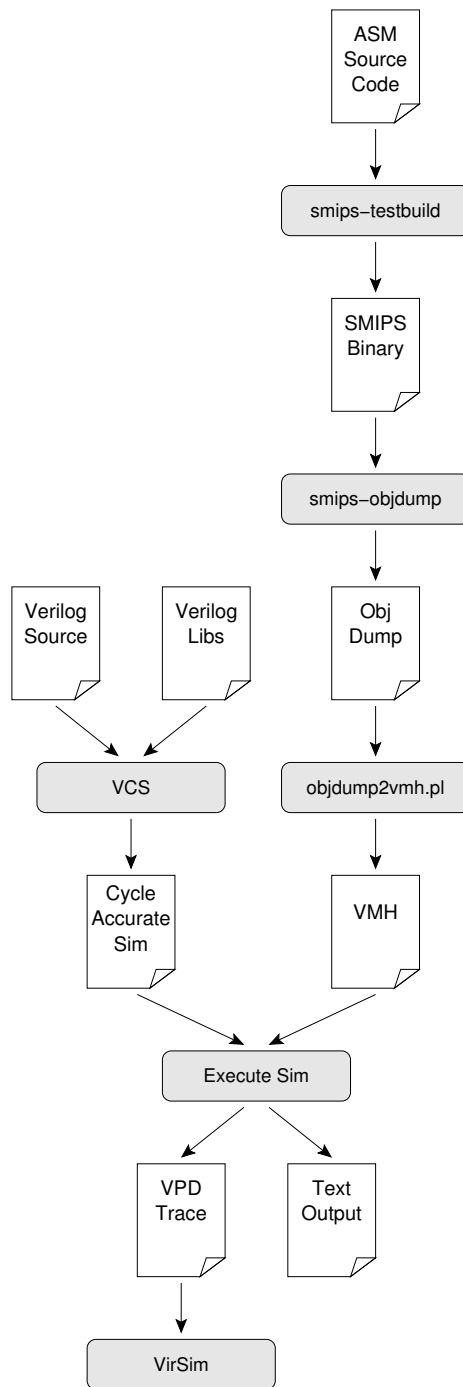
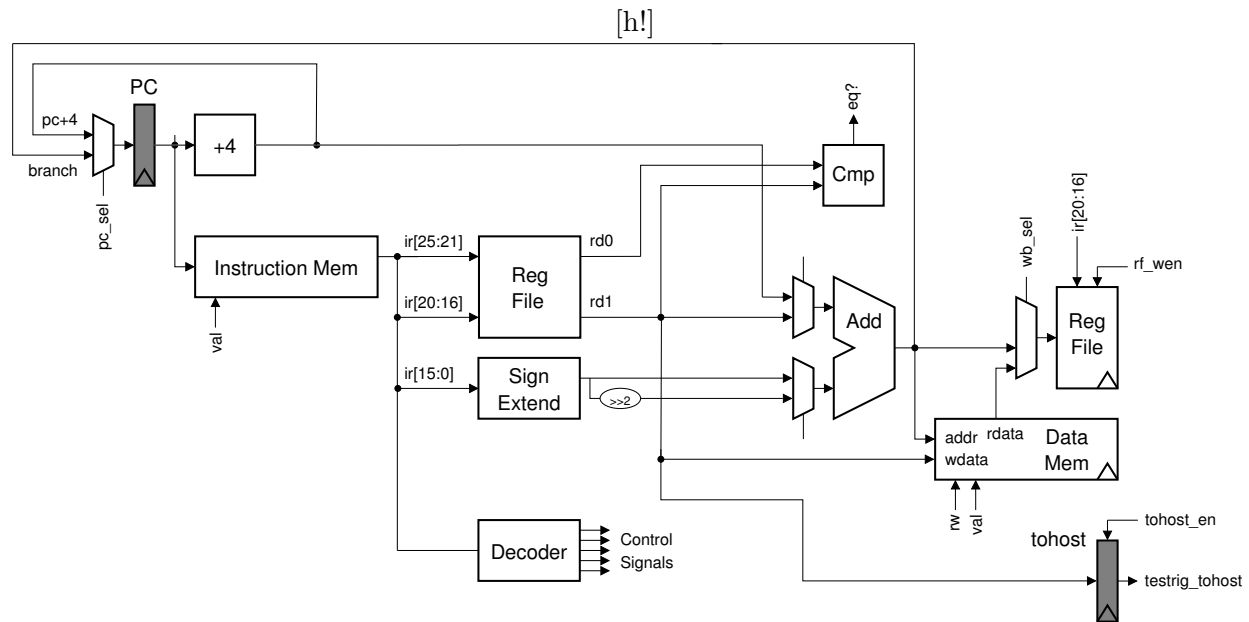

Figure 1: VCS and SMIPS Assembler Toolflow
Figure 2: Block diagram for Unpipelined SMIPSV1 Processor
In this tutorial you will gain experience using Synopsys VCS to compile cycle-accurate executable simulators from Verilog RTL. You will also learn how to use the Synopsys Waveform viewer to trace the various signals in your design. Figure 1 illustrates the basic VCS and SMIPS assembler toolflow. VCS takes a set of Verilog files as input and produces a simulator. When we execute the simulator we need some way to observe our design so that we can measure its performance and verify that it is working correctly. There are two primary ways to observe our design: (1) we can use `$display` statements in our Verilog RTL to output textual trace information, or (2) we can instruct the simulator to automatically write transition information about each signal in our design to a file. There is standard text format for this type of signal transition trace information called the Value Change Dump format (VCD). Unfortunately, these textual trace files can become very large very quickly, so Synopsys uses a proprietary compressed binary trace format called VCD Plus (VPD). We can view VPD files using the Synopsys waveform viewer called VirSim.
We will be using a simple unpipelined SMIPsv1 processor as our design example for this tutorial, and thus you will also learn the how to build and run test codes on the processor simulator. Figure 2 shows the block diagram for the example processor. Figure 1 shows the SMIPS assembler toolflow which starts with an SMIPS assembly file and uses several tools to generate a Verilog Memory Hex (VMH) file suitable to run on the cycle-accurate simulator. This tutorial assumes you are familiar with the SMIPS ISA. For more information please consult the *SMIPS Processor Specification*.
Refer back to Figure 1 to see how the SMIPS assembler fits into the overall toolflow. The `smips-testbuild` script calls the SMIPS assembler and linker to compile an assembly file into an SMIPS binary. Unfortunately, our SMIPS Verilog test harness cannot read SMIPS binaries directly, so we must use additional tools to convert the SMIPS binary into a usable format. The `smips-objdump` program takes the SCALE binary as input and produces a textual listing of the instructions and data contained in the binary. The `objdump2vmh.pl` Perl script converts this text objdump into a Verilog Memory Hex (VMH) file which the Verilog test harness can read into a magic memory.